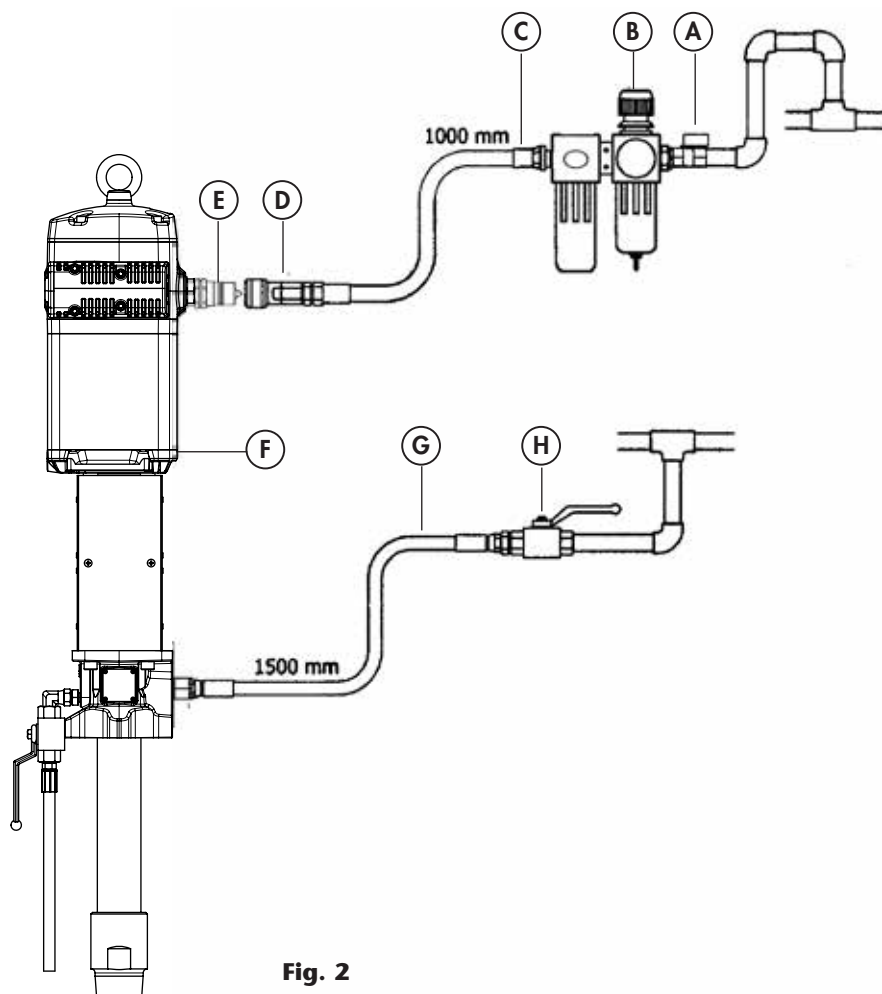

Fig. 2
Figure 2 is a typical installation shown with all the recommended accessories for the pump to operate correctly.
1. Open the bleed air valve (84). The pump can now expel any air trapped in (fig. 2).
3. Close the pump air bleed valve (84) as soon as the material trapped air is pumped out of the valve.